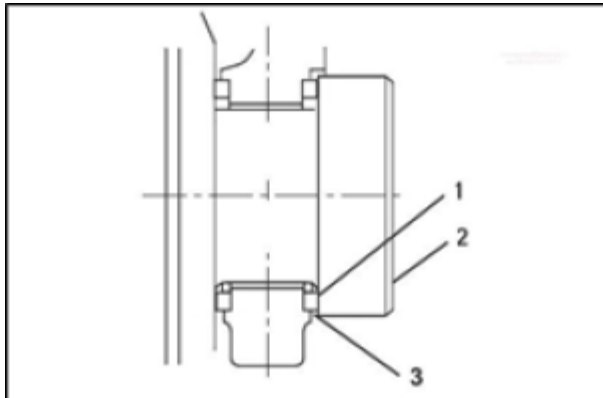

Figure 87.
**METHOD B:** Use a feeler gauge to measure the clearance (Figure 87, Item 3) between the thrust bearing (Figure 87, Item 1) and crankshaft (Figure 87, Item 2). Record the measurement. See Thrust Bearing specifications for the service limit.